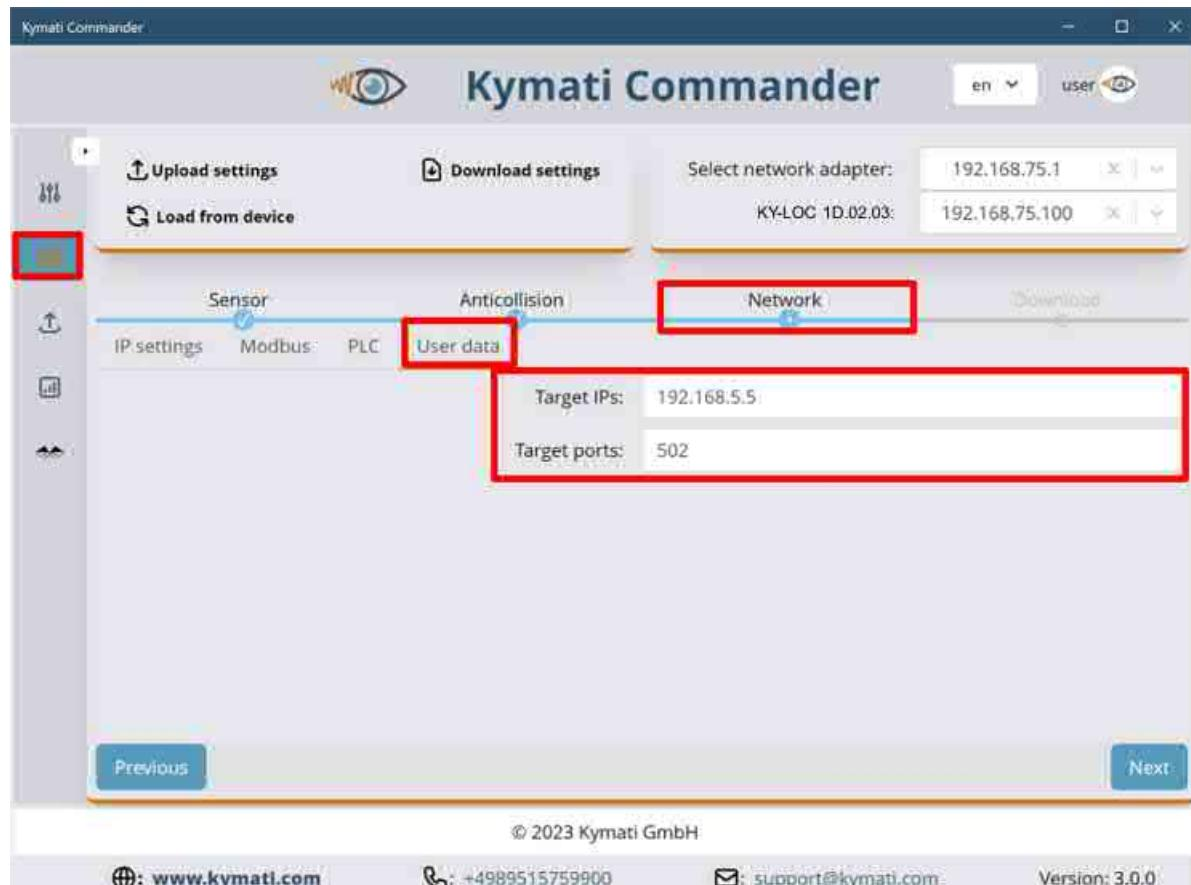

Figure 9.16: Network tab – User data settings (Modbus Channel)
- This remote Modbus server can be configured by the user in the GUI through the “Target output IP” and “Target output port” settings. (As shown on Figure 9.16)